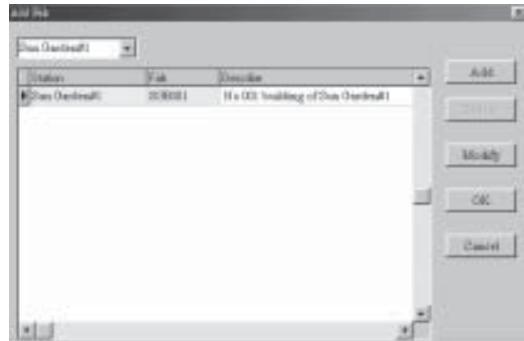

Fig. 4-8 The Controllers Adding Competition Dialogue box
2.2 Click **OK** to end the setting up of FAB1, as in Fig. 4-8.